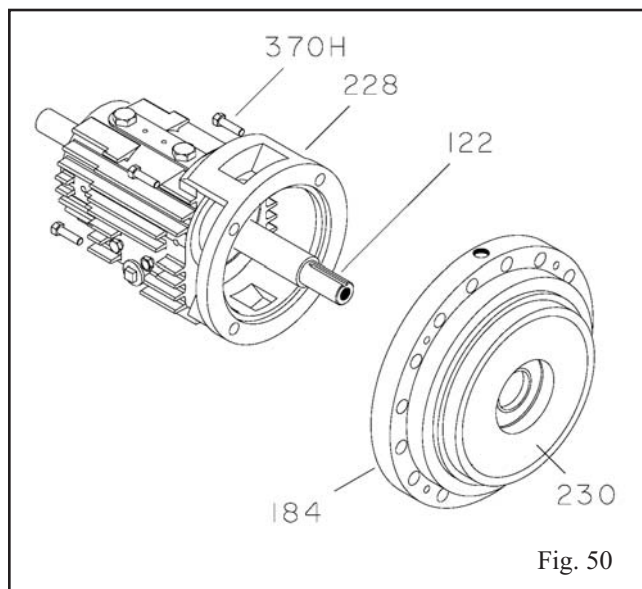

Fig. 50
1. Install eyebolt in tapped hole provided in seal chamber cover (184) (Fig. 50).
3. Lift seal chamber cover (184) and position to align with shaft (122).
4. Install seal chamber cover (184) on bearing frame assembly by guiding cover carefully over shaft (122) and into bearing frame (228) lock.